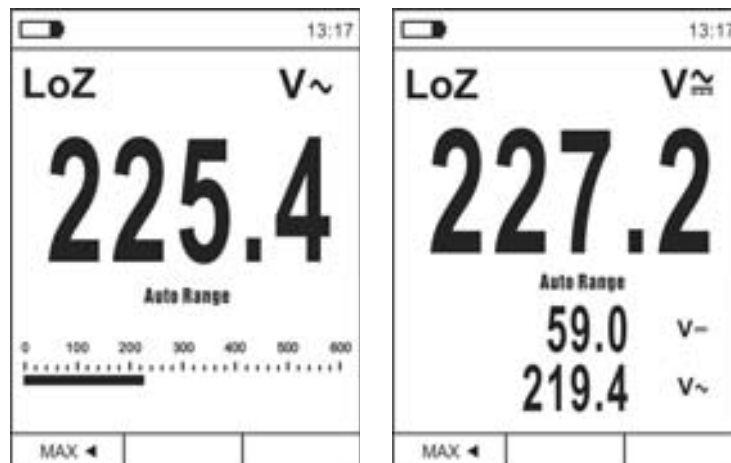

Fig. 10: Description of LoZ voltage measurement
2. Press key **MODE/VFD** by selecting modes “V \sim ” or “V \approx ” (see Fig. 10)